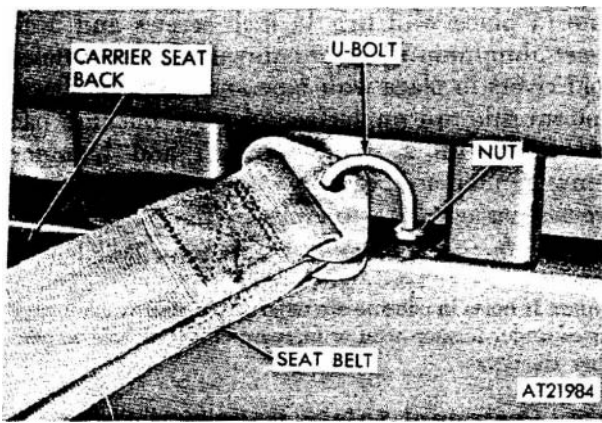

Figure 2-332. Personnel safety belts, removal and installation.
(2) Remove seat safety belts by removing two nuts and lock washers securing U-bolt to carrier. Remove U-bolt and seat belt (fig 2-332).
(3) Remove nuts from U-bolt and slide seat belt from belt.
(1) Slide seat belt hardware on U-bolt. Thread two nuts on U-bolt and insert into carrier mounting holes. Secure assembly with two lock washers and nuts (fig 2-332).